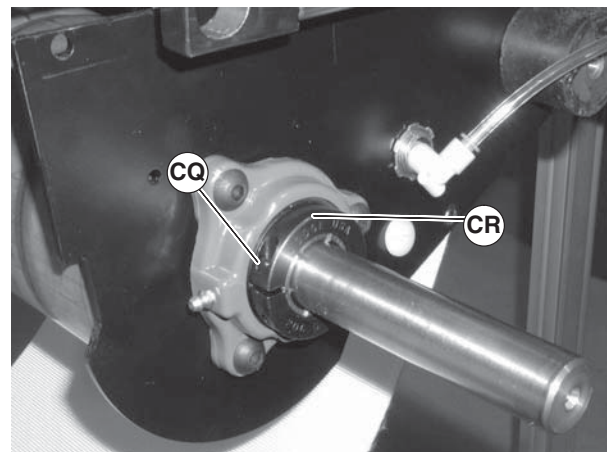

Figure 79
6. Loosen clamp screw (Figure 79, item CQ) and remove bearing collar (CR).